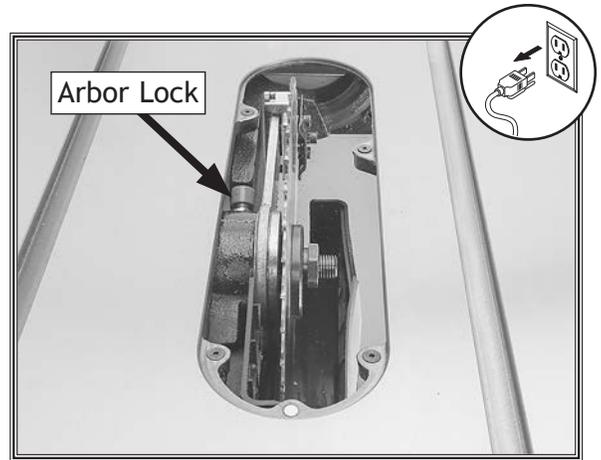

Figure 44. Location of arbor lock.
3. Push arbor lock (see Figure 44) in and turn blade until it locks in place.